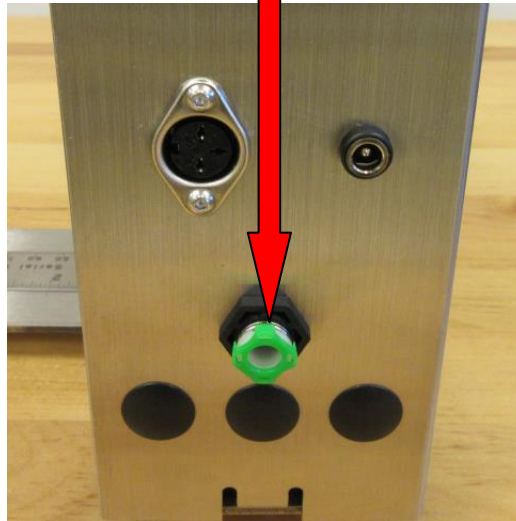

Figure 2.1.1
- Connect a 1/4" air supply hose to the 1/4" "**GREEN**" bulkhead connector located on the rear of the cover. *Figure 2.1.1*